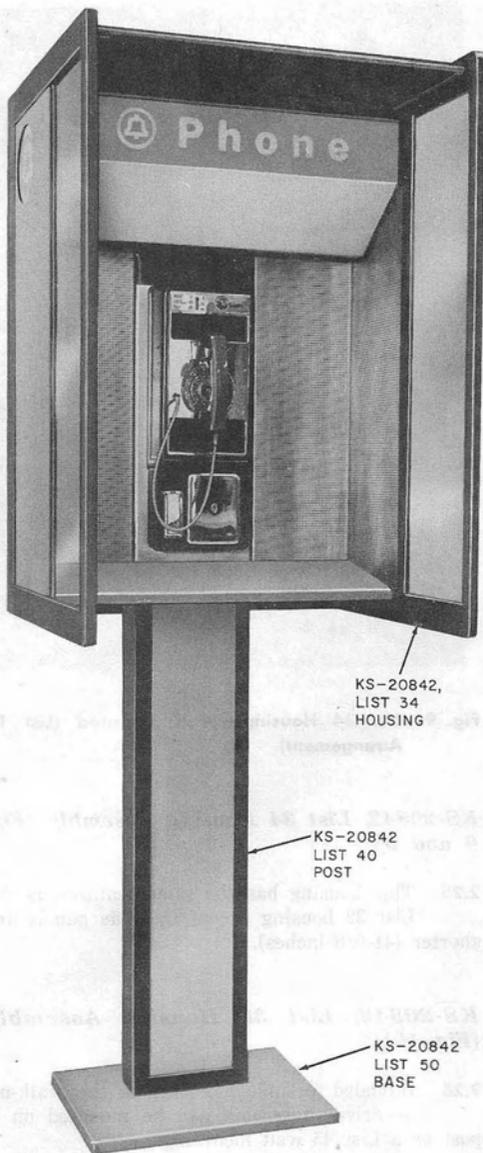

**Fig. 7—List 33 Universal Housing—Post Mounted (List 19 Arrangement)**
**KS-20842, List 33 Housing Assembly (Fig. 7)**